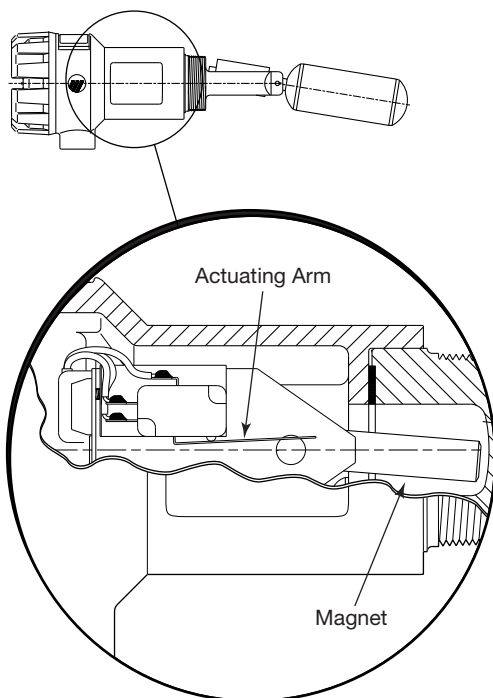

Figure 12
4. Examine the switch actuating arm and magnet assembly for evidence of binding or wiring interference. **See Figure 12.** The switch and magnet assembly must move throughout its entire range of motion without interference. If there is any binding, the ENTIRE switch mechanism (switch and magnet assembly) must be replaced.